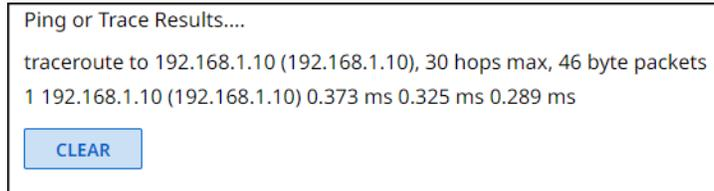

Figure 30. Trace Results Shown
- **Trace** — Traces the network route taken by a packet from source to destination and displays the network packet path as it traverses the network. If a trace is not fully successful, the diagnostic displays where the packet was last successful before it stopped and can no longer communicate to the next hop. Figure 30 shows the typical results of a Trace diagnostic.